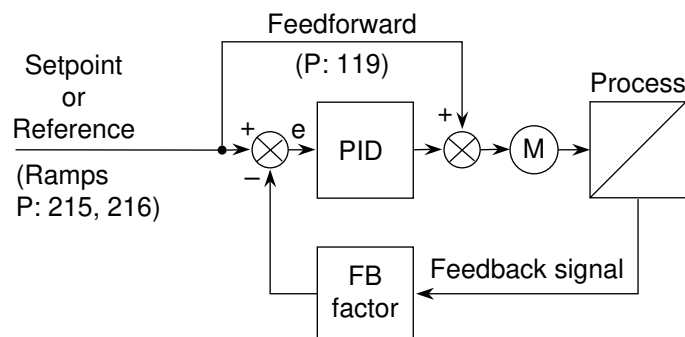

Figure 1.
**Set at 0%.** Only add 5% at a time, and only if the system takes a long time to start up. Figure 1 shows the influence of the feed forward.